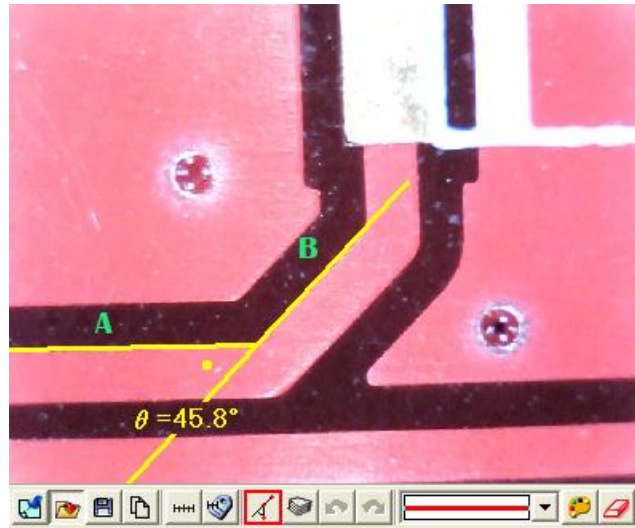

Fig 5-71 3 Points Fillet
- (8) 3 Points Fillet: Measure chamfer and use . Draw first line on the angle (see line A) and press the left mouse button to drag a line on the other side of the angle (See line B) to calculate the chamfer. See Fig 5-71. There is a small dot inside the chamfer and shows 45.8° .